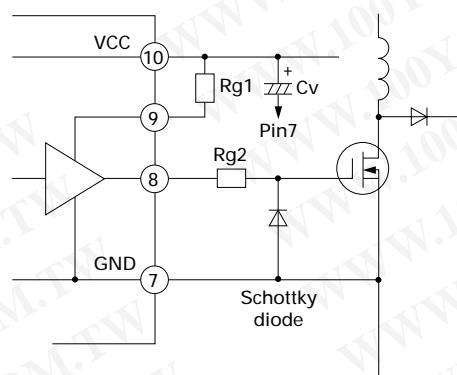

Fig. 8 Output circuit
As Fig. 8 shows, pin 9 is configured as the high power terminal (VC), independent of the IC power terminal (VCC). This pin allows an independent drive resistance when the power MOSFET is ON and OFF. If the drive resistances in the ON and OFF states are R_g (on) and R_g (off), the following formulas can be used to determine the total gate resistance R_g :